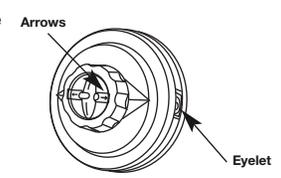

Fig. 21
1. Align the arrows on the bump knob with the spool cover eyelets, if they are not already (Fig. 21).